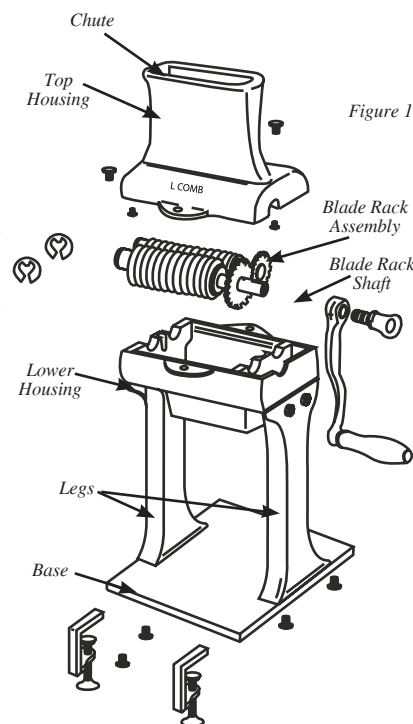

Figure 1
1. Using an **Allen Wrench** and **Screws**, attach the **Left** and **Right Legs** to the **Lower Housing**. *Figure 1*